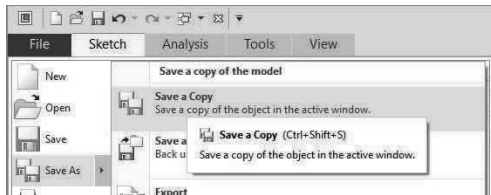

Figure 3-58 Save a Copy
Step 22: With sketch “exercise1a” visible on the screen, *select* **File> Save As>Save a Copy**. See Figure 3-58.